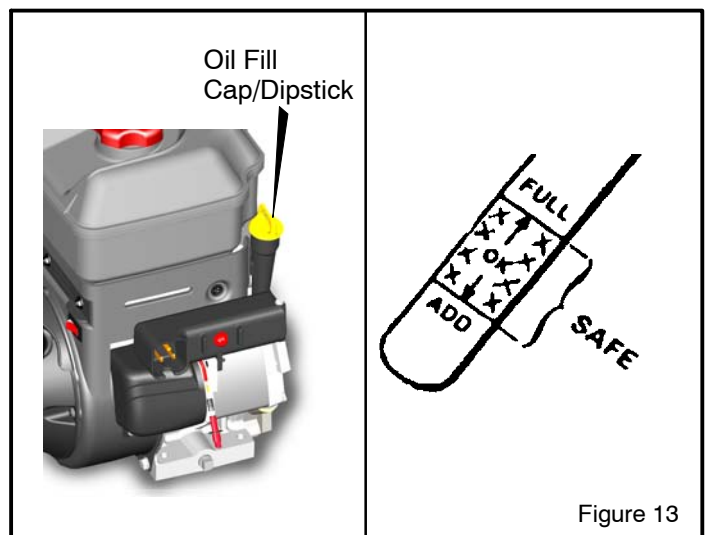

Figure 13
2. Remove the oil fill cap/dipstick and wipe with a clean cloth (see Figure 13).
5. If necessary, add oil until the oil reaches the FULL mark on the oil fill/cap dipstick (see Figure 13). Do not add too much oil.